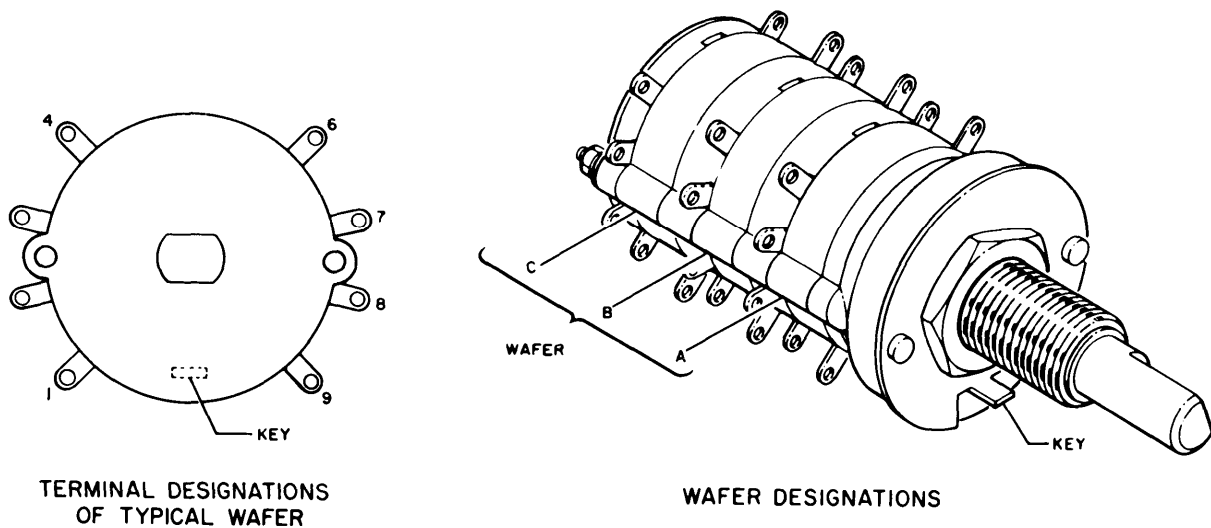

Figure 5-16. POWER Switch A1S1, Wafer and Terminal Designations
(1) Perform the procedure of paragraph 5-51 to gain access to the switch.
(2) Refer to figure 5-16 for wafer and terminal designations.
(3) Disconnect the external leads in the order listed in table 5-19. Code-mark leads to insure proper reassembly.